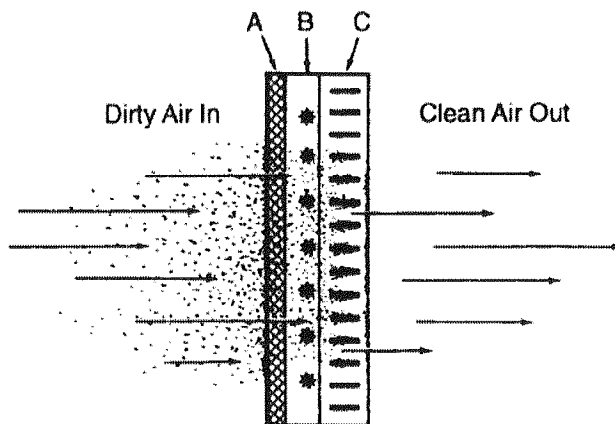

Figure 1
Dirt particles flowing through the ducts (Figure 1) first enters the pre-filters (A) where large particles (hair, lint, etc.) are trapped. Smaller particles (smoke, dust, pollen, etc.) pass through these pre-filters and enter the ionizing section (B). Here each tiny particle receives a positive electrical charge. These charged particles then enter the collecting section (C). This section consists of a series of aluminum plates which are alternately charged negative and positive.